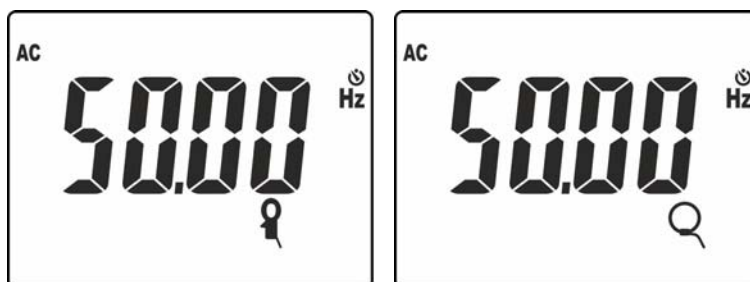

Fig. 40: Result of frequency measurement with standard and flexible clamp
9. Press key **MODE/MXMNPK** to display the value of frequency of AC current with a high resolution (see Fig. 40)